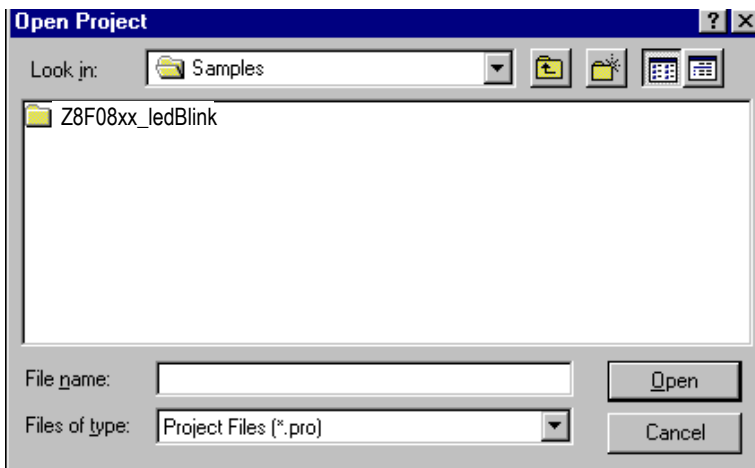

Figure 4. Sample Directory (Reference Only)
6. Select **Samples**. The samples folder appears (See Figure 4).